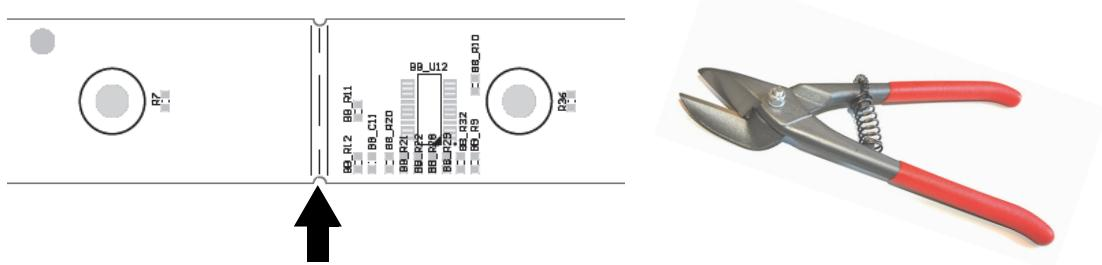

Figure 3: Cutting a VC-Strip
3. See Figure 3. Using either a pair of tin snips or a small rotary cutting tool (Dremel or similar) with a fine-tooth cutting wheel, cut the VC-Strip at a cutting point marked with a dotted line.